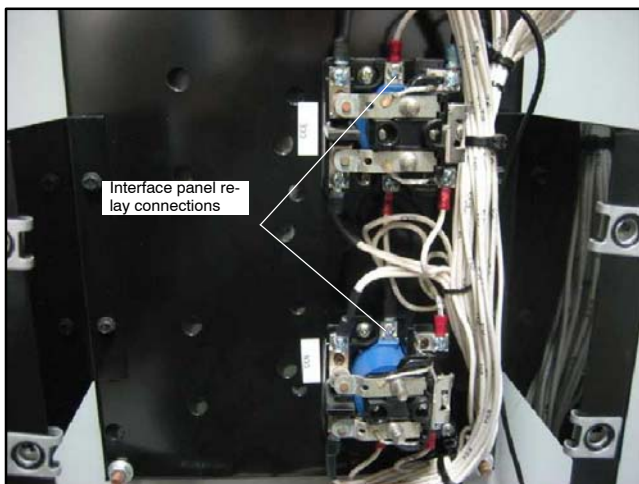
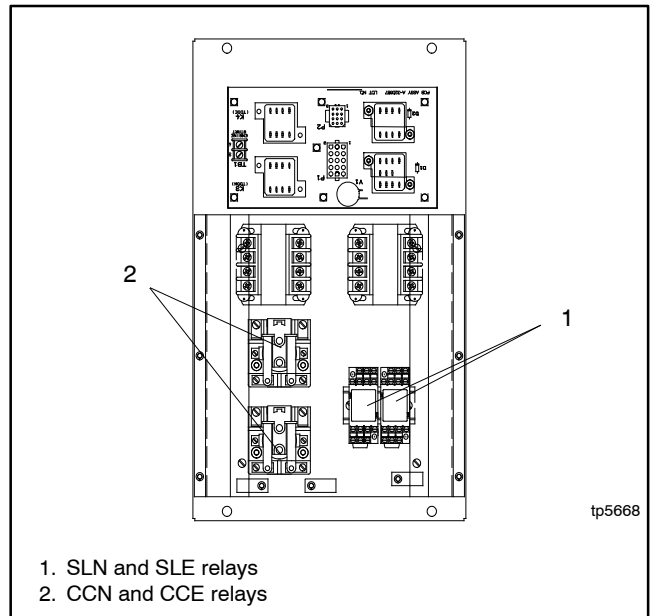

Figure 38 Disconnect Lead 33 from Interface Panel Relays (two relays not shown)
Figure 39 Interface Panel Assembly Relays, typical (relays vary by model)
29. On the interface panel assembly, disconnect lead 33 from terminal 1 on the four relays on the interface panel. See Figure 38 and Figure 39.